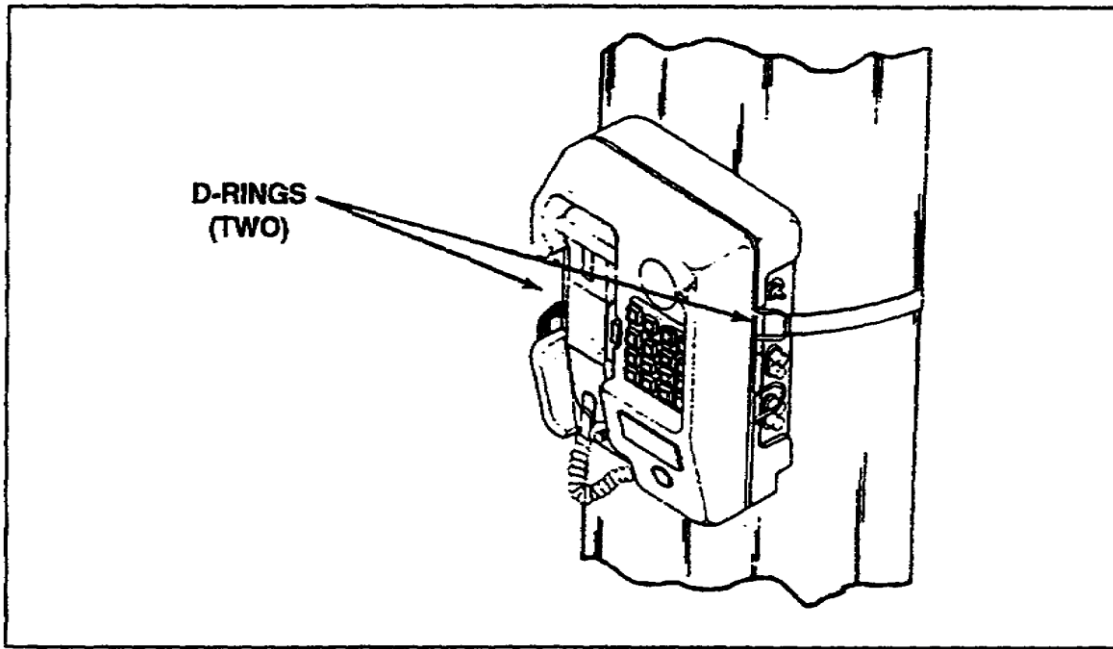

Figure 1-22. DNVT vertical mounting details.
a. Mounting. The DNVT has rubber feet for desktop mounting and D-rings affixed to the case side for vertical mounting to a tree or pole. Mounting may be accomplished by the use of rope, wire, or straps. Secure one end to the left side D-ring. Hold the DNVT in the desired mounting position. Feed the rope, wire, or strap through the top right side D-ring; tighten and secure. (See Figure 1-22.)